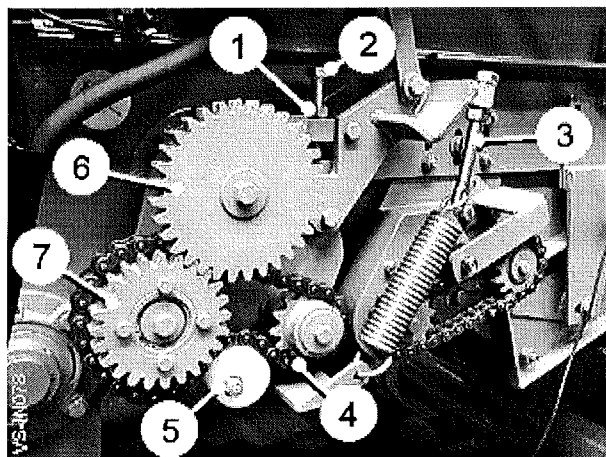

Fig 13
To increase/decrease the gap between the haulm roller and digger web, release the locknut (item 1, fig 13) and turn the setscrew (item 2, fig 13). Care must be taken to set the gap equally on both sides.
To increase/decrease the haulm roller spring tension, adjust the setting of the spring tensioner (item 3, fig 13). Adjust both sides evenly and check the setting by measuring the length of exposed thread on the spring tensioners.
The haulm roller is fitted with a scraper. Set the scraper as close to the roller as possible without actually fouling it. The haulm roller drive chain (item 4, fig 13) is tensioned by rotating the tension block (item 5, fig 13).
The optional haulm roller reversing kit consists of a chain and sprocket which are fitted in place of the reversing gears (item 6 & 7, fig 13). The reversing kit is used when the pinching action of the haulm roller is not required on crops such as onions etc.